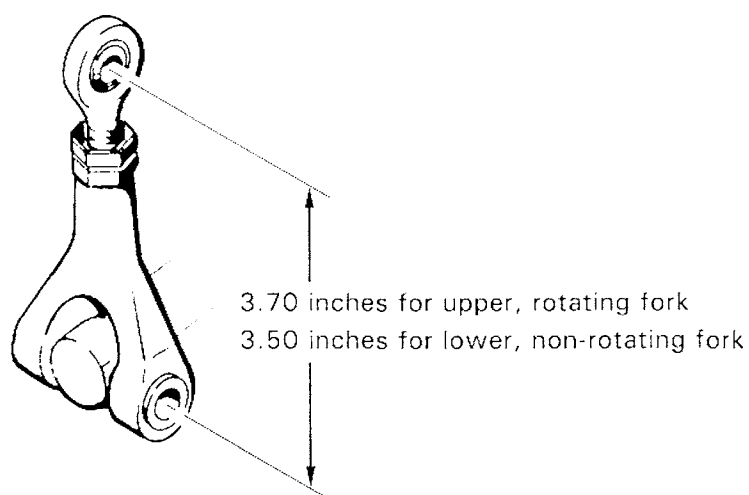

FIGURE 10-3 A205 FORK DIMENSIONS
1. Verify A205 forks at swashplate are set to proper length per Figure 10-3. Measuring to bolt bore center lines, lower fork assembly should be 3.50 ± 0.03 inches and upper fork assembly should be 3.70 ± 0.03 inches.